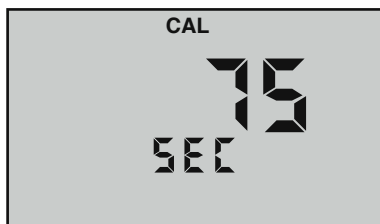

Figure 26
5. Press  or  to change the amount of time (see Figure 26). Maximum time of 75 seconds is shown.